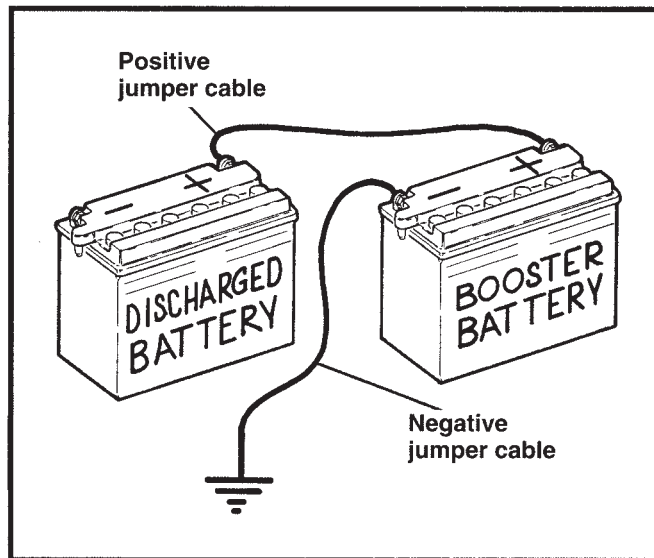

Figure 43. Jump Start Cable Connections
2. See Figure 43. Connect one end of a jumper cable to the DISCHARGED battery positive (+) terminal.